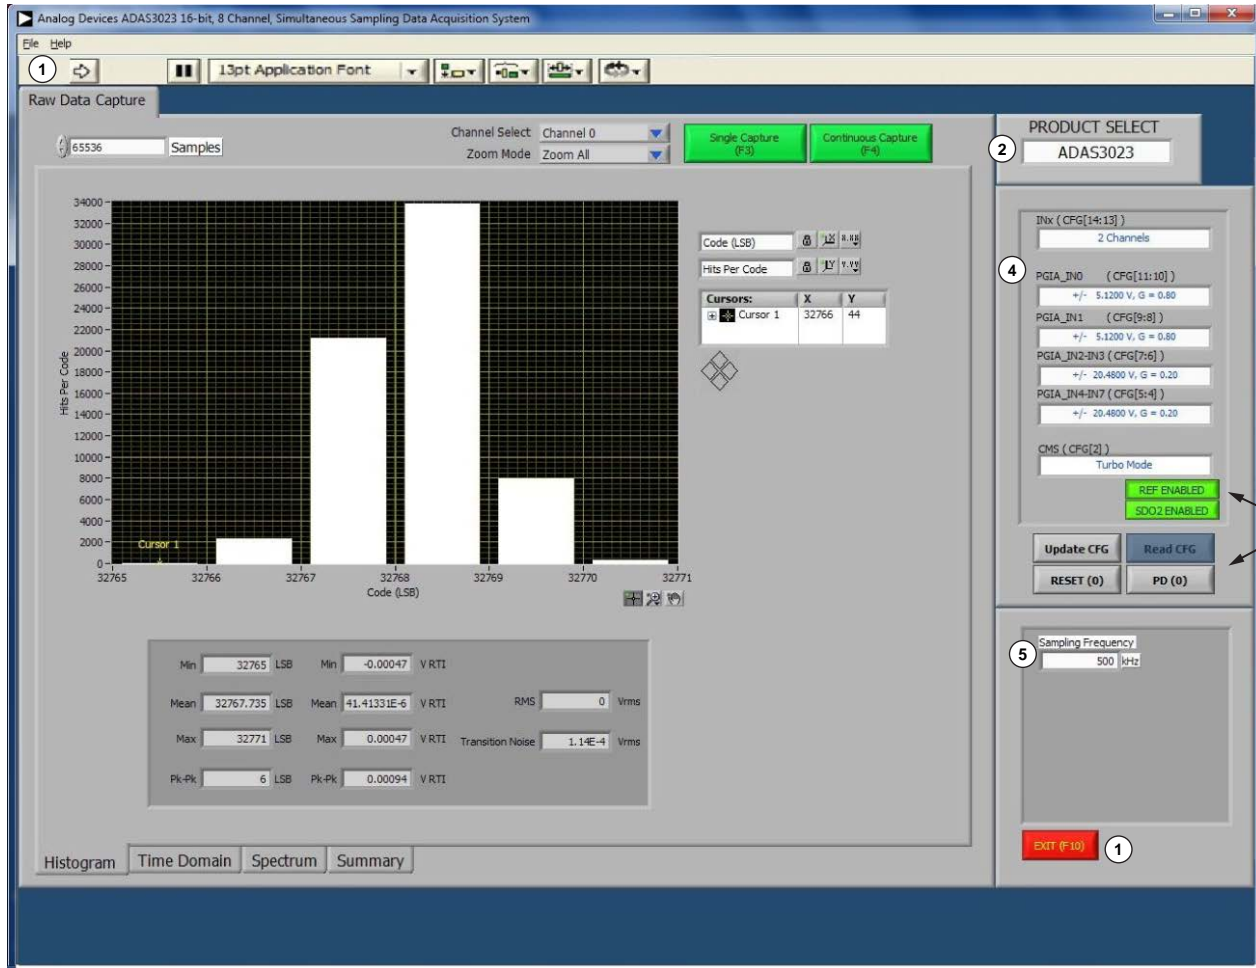

Figure 10. Setup Screen
Refer to Figure 10 to Figure 19 for further details and features of the software.
Refer to the numbered labels in Figure 10 which match the numbered descriptions in this section. This section details the operation of the software located in the default directory:
1. When running the software from **Start/All Programs/Analog Devices**, the software automatically runs. Select **EXIT (F10)** to stop the software and display the right arrow (see 1 in Figure 10). This arrow is used to start the software again. When running the software, this icon is not displayed.
- **RESET (0)** resets the **ADAS3023** device to a known state. Click **RESET** twice: once to reset the **ADAS3023** and again to bring it out of the reset state. Note that the CFG is also reset to the default condition.
- **PD (0)** places the **ADAS3023** device in power-down. This does not need to take place when starting the software.
- The CFG controls (labeled 4 in Figure 10) are used to set the CFG. See the Software Controls section.